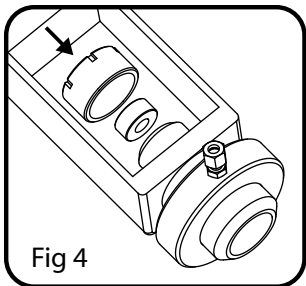

Fig 4
6. Install guide bushing (4) into adaptor body (6) and thread on packing gland nut (3) **[FIG 4]**